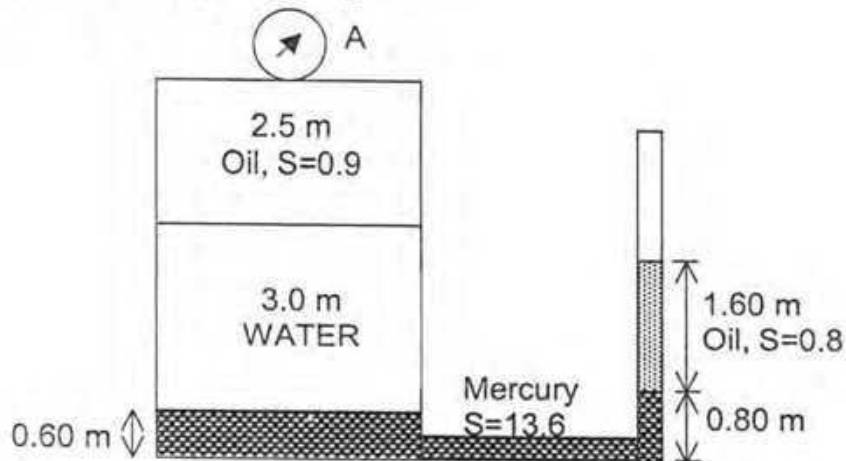

Figure 3
c. Determine the reading of gauge A in Figure 3.